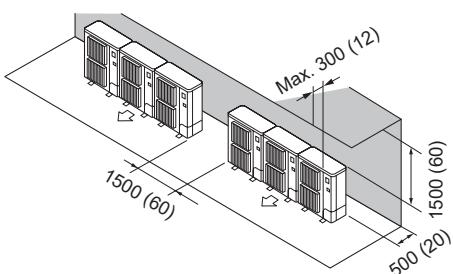

Fig. 2-13
(2) Obstacles at rear and above only (Fig. 2-13)